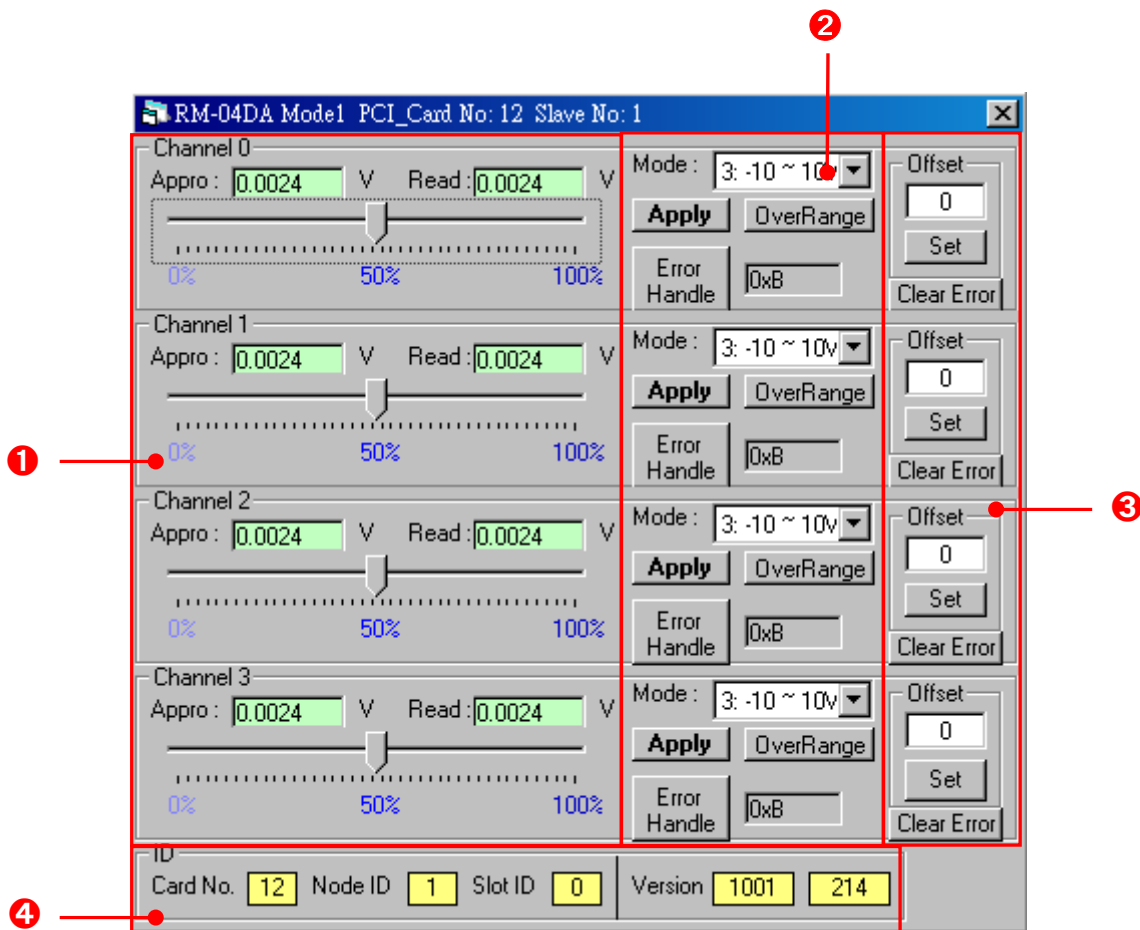

Figure 2.20 RM04DA Interface
- ❹ RM04DA module information.
Below is a more detailed description of block ❷ in Fig. 2.20